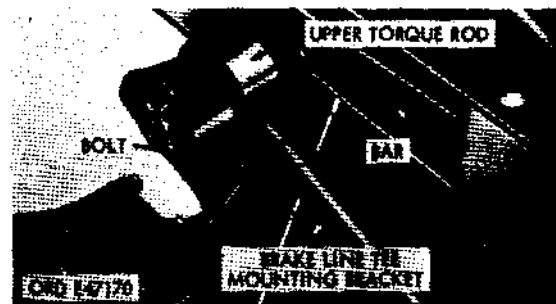

Figure 380. Upper torque rod positioned for forward - rear axle removal
- (6) Remove brake-line tee from mounting bracket. Raise upper torque rod clear of axle, and support in raised position with a short bar placed between frame side rails. Wire brake-line tee mounting bracket and left rear torque-rod bracket bolt to upper torque rod (refer to fig. 380).